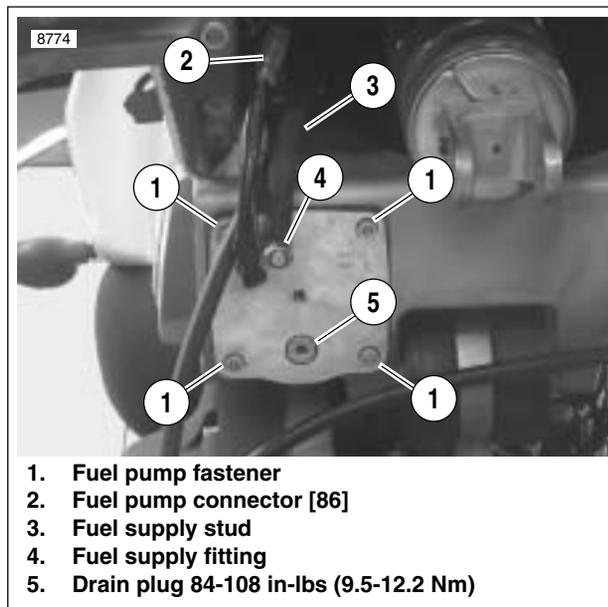
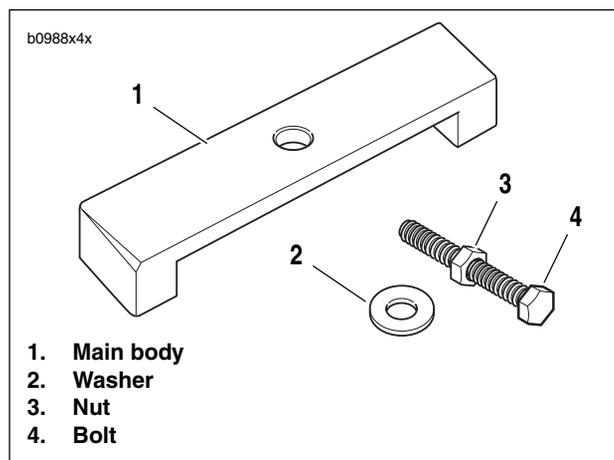
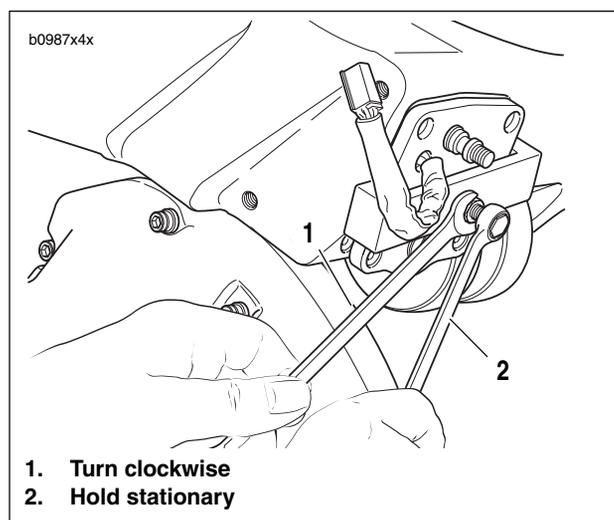

Figure 4-52. Fuel Pump Location
Figure 4-53. Fuel Pump Puller
Figure 4-54. Fuel Pump Removal
- a. See Figure 4-52. Disconnect the 4-place fuel pump connector (2) [86]. Connector is located inside the left rear portion of the fuel tank/frame.
4. See Figure 4-52. Remove fuel line from fuel supply fitting (4).
5. Remove four fuel pump fasteners (1).
6. See Figure 4-53. Assemble fuel pump puller.
- a. Thread nut (3) onto bolt (4).
- b. Slide washer (2) onto bolt.
- c. Insert bolt assembly into hole in main body (1).
7. See Figure 4-54. Place the main body of the fuel pump puller over the fuel pump assembly.